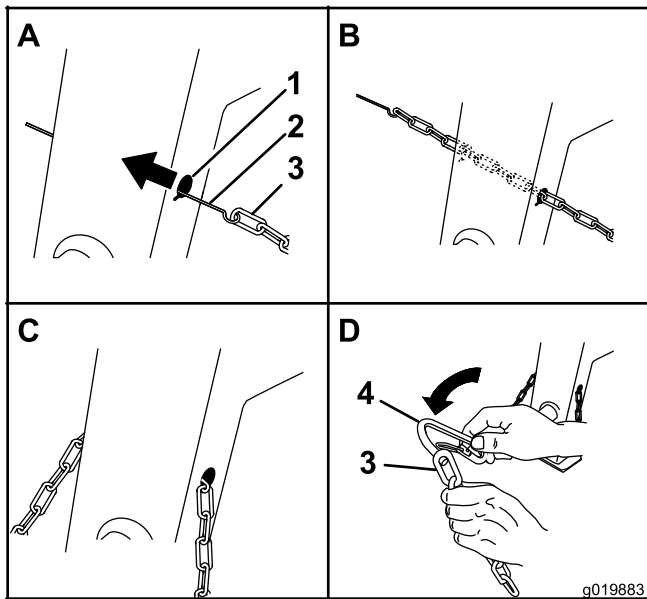
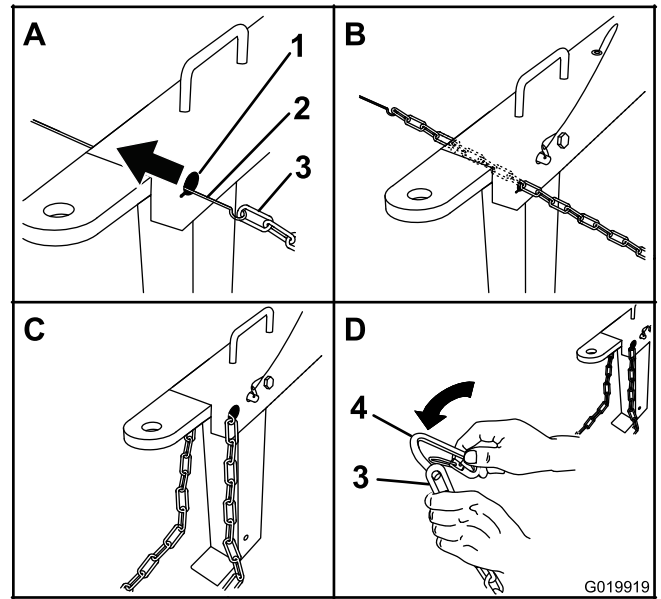

Figure 8
Figure 9
1. Form a hook on the end of a bendable piece of rod or stiff wire, (not included), and insert it through both keyholes in the front post of the machine (Figure 8).
2. Attach the safety chain to the length of rod or wire (Figure 8).
3. Pull the rod, or wire, and the safety chain through both keyholes (Figure 8).
1. Form a hook on the end of a bendable piece of rod or stiff wire (not included) and insert it through both keyholes in the tongue of the machine (Figure 9).
2. Attach the safety chain to the length of rod or wire (Figure 9).
3. Pull the rod, or wire, and the safety chain through both keyholes (Figure 9).
1. Align the connecting link to the last link in one end of the safety chain (Figure 8 and Figure 9).
2. Insert the connecting link through the chain link until the connecting link snaps closed (Figure 8 and Figure 9).